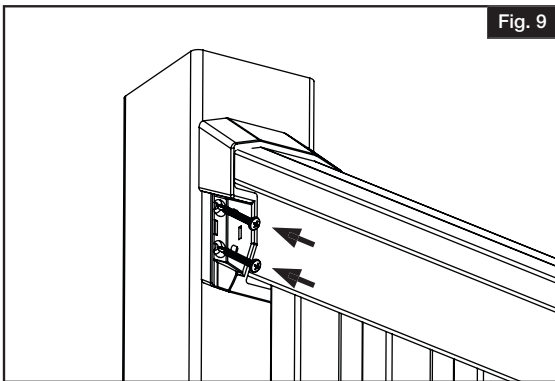

Fig. 9
- Mark all bracket holes. Pre-drill all bracket holes with $\frac{1}{8}$ " drill bit (Fig. 9).
- Drive screws through brackets into post using #10 x $1\frac{1}{2}$ " self-tapping square drive screws (4 per bracket) (Fig. 9).